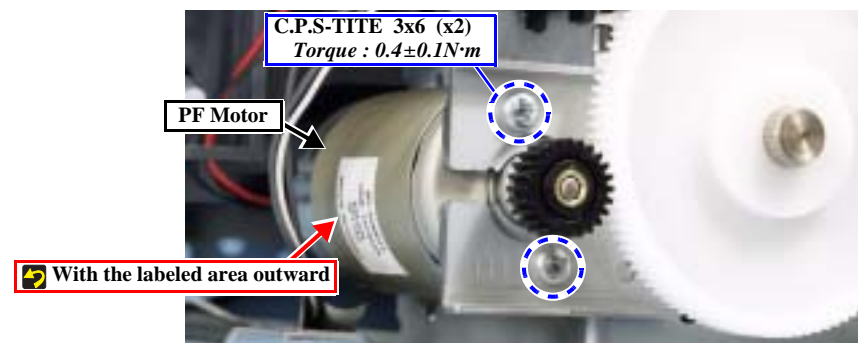

Figure 4-56. Removing the PF Motor
6. Remove the screws (x2) securing the PF Motor, and remove the PF Motor in the lateral direction. (Fig. 4-56)
- Install the PF Motor with its labeled area facing outward. (Fig. 4-56)